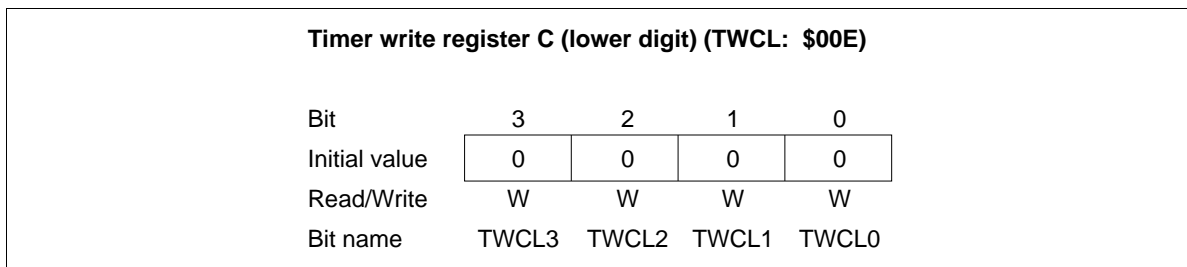

Figure 52 Timer Write Register C Lower Digit (TWCL)
- Timer write register C (TWCL: \$00E, TWCU: \$00F): Write-only register consisting of the lower digit (TWCL) and the upper digit (TWCU) as shown in figures 52 and 53. The operation of timer write register C is basically the same as that of timer write register B (TWBL: \$00A, TWBU: \$00B).